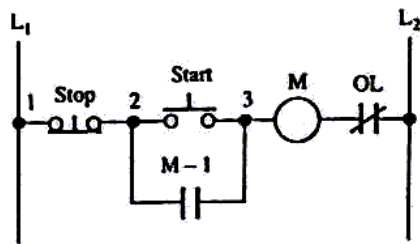

Fig. 33 Start/Stop Seal Control.
21. Start/stop seal control (Fig.33)